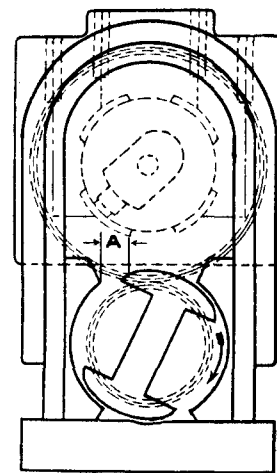

Figure 19.
**Magneto** Do not attempt to change the timing of the magneto, the setting of which is shown in *Fig. 19*.
The armature shaft of the magneto is set so that the "H" piece is a specific distance from the pole piece. This distance is "A" in *Fig. 19*, and is 21 millimeters or .827" for the "38," and 25 millimeters or .985" for the "48." All motors are set this way at the factory before shipment, and